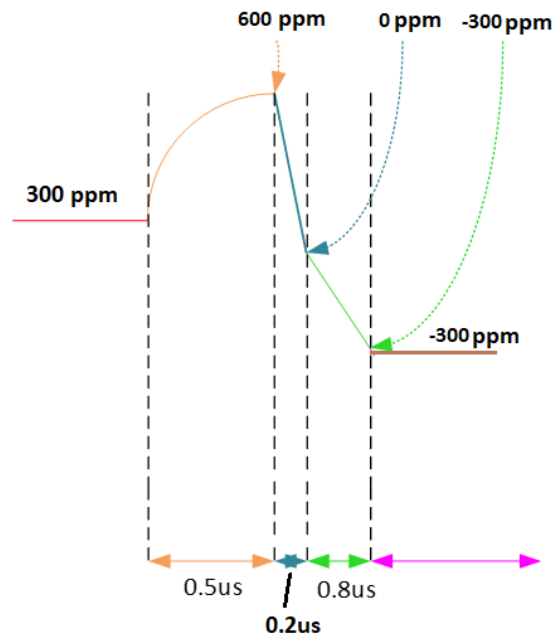

Figure 14a. Frequency variation dynamics
4. Construct the frequency variation dynamics as shown in Figure 14a. Refer to USB4 2.0 Specification Table 3-26. Tolerance is $\pm 25\text{ppm}$ with respect to USB4 2.0 Specification targets